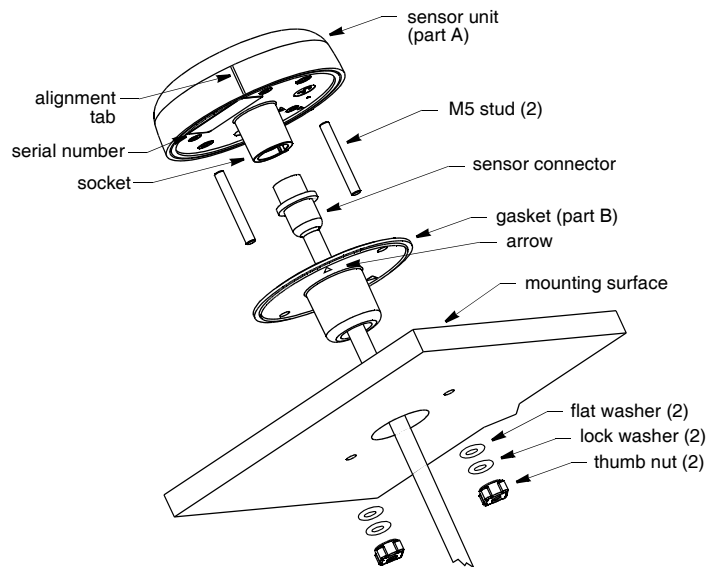

Figure 3. Flush mount
1. Remove the label from over the sensor unit's socket (Figure 3). Apply *removable* thread locker to the two studs supplied. Screw the studs into the underside of the sensor unit (part A).